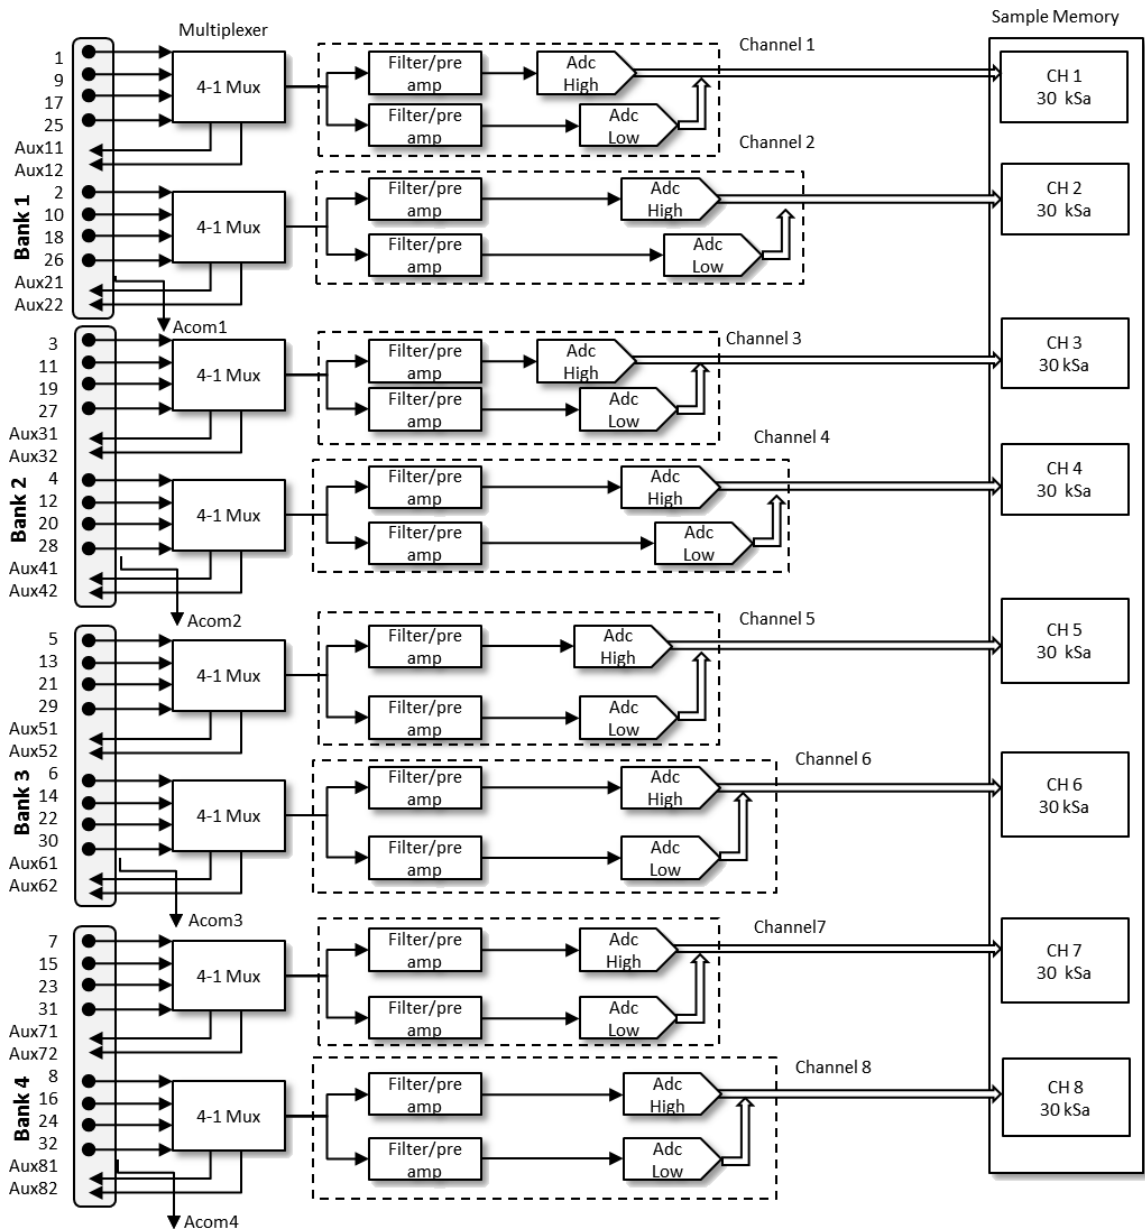

Figure 1-3 M9216A in Multiple Channel measurement mode
- Figure 1-3 M9216A in Multiple Channel measurement mode 8
A block diagram of the M9216A DAQ is shown in Figure 1-3. At the front end of the DAQ is a 32 port high voltage multiplexer capable of withstanding 100 V @ 0.5 A, followed by a group of eight semi-autonomous digitizers. Each of these eight measurement channels has two sub-channels that are used for concurrent 5 V and 100 V range measurements. Both sub-channels are always active. You can select whether to retrieve data from one, both, or none of the sub-channels.
As shown in Figure 1-3, the 32 input ports of the DAQ are arranged into four banks. The significance of each bank is that the eight input ports belonging to each bank shares one common return ground that is DC isolated from the other banks as well as chassis ground.
MULTI CHANNEL The M9216A have eight dedicated channels that may be independently configured. These digitizers are labeled as Channel 1 to Channel 8 in Figure 1-3.